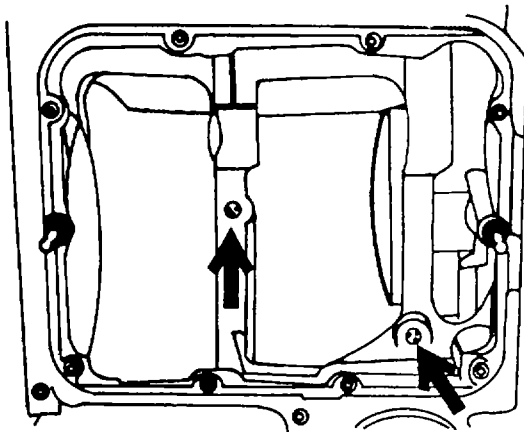

Figure 5-16. Oil Galley Plugs
- i. Remove the halves of bearing shells and mark them on the back corresponding to the crankcase. Use an electric scriber. Remove the lubricating oil filter with base plate. Remove the bearing shell in the middle main bearing. Unscrew the oil gallery plugs and piston cooling injection nozzles (figures 5-16 and 5-17). Clean all parts and thoroughly flush all oilways. Do not hot tank.